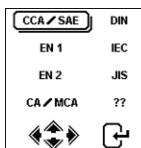

Fig.29
4. Once the battery type [SLI (WET)] or [AGM] has been selected, it will proceed to the display as shown below (Fig.29):